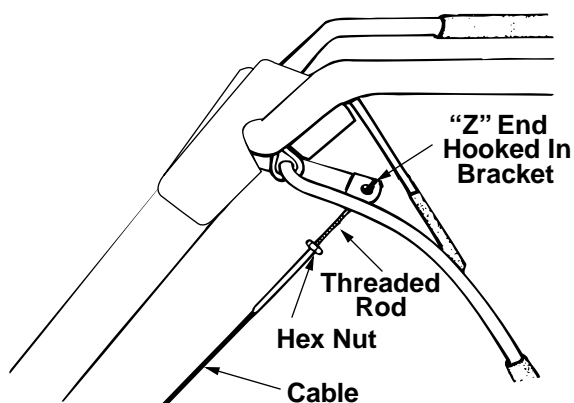
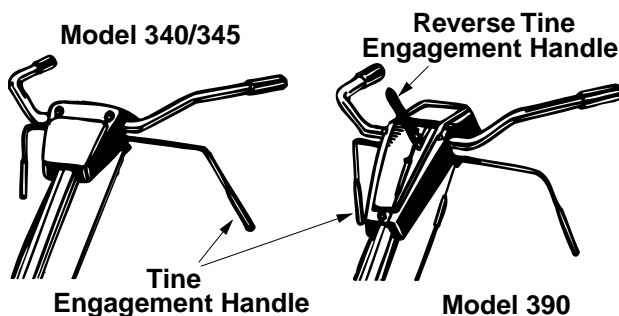

Figure 6 Model 340/345
Figure 8
2. Unthread the rod from the rest of the cable. Hook the "Z" end of the rod into the bracket underneath the handle assembly from the right hand side. (See Figure 6.)
3. With tine engagement handle in neutral (released) as shown in Figure 8, pull the starter rope several times. **The tines should not turn.** If they turn forward, loosen the hex nut on the forward cable (underneath the handle assembly). See Figure 6. If they turn toward the rear (model 390 only), loosen the hex nut on the reverse cable (above the handle assembly). Unthread the rod from the cable 2 or 3 turns. Retighten the hex nut, and check again for correct adjustment. See Figure 8.
The forward tine engagement handle is located beneath the tiller handle. (See Figure 8). Squeezing the handle up against the tiller handle engages the tines. Release the handle to stop the tines.
The reverse tine drive clutch lever is located on top of the handle panel. (See Figure 8). Pull the lever to the rear to move the tines in reverse. Release the lever to stop the reverse tine drive.
2. Make certain all controls are in the neutral position (released). (See Figure 8).